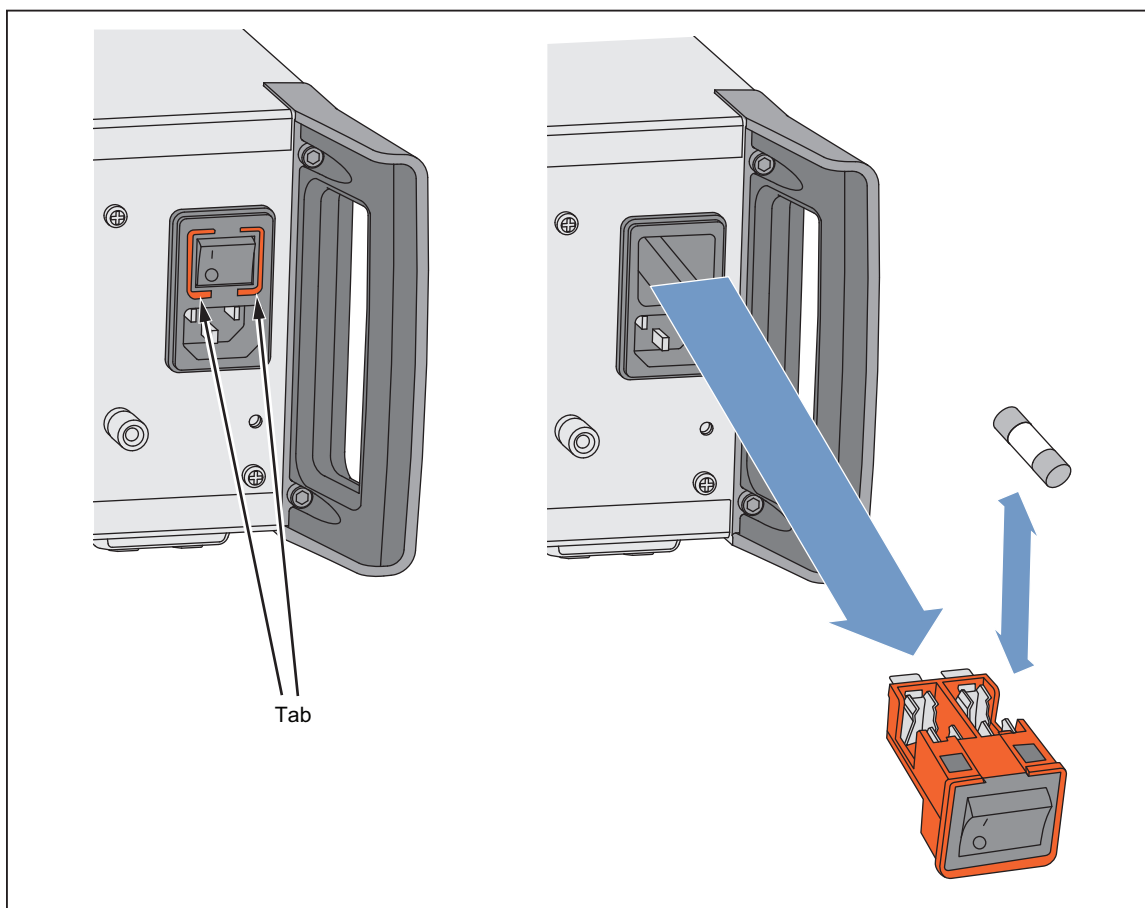

Figure 5-1. Access the Fuses
Fuse replacement is necessary if the Product blows a fuse. The line-power fuses are located on the power block on the rear panel. See Figure 5-1. The Product has dual fusing with fuses in both the line and neutral connections. When a blown fuse is replaced, replace both fuses to avoid a stressed fuse and subsequent power interruption. Before you try to access and replace the fuses, make sure that the replacement fuses are appropriate.
4. Install good fuses with the correct ratings. See Table 5-1 and Figure 5-1.